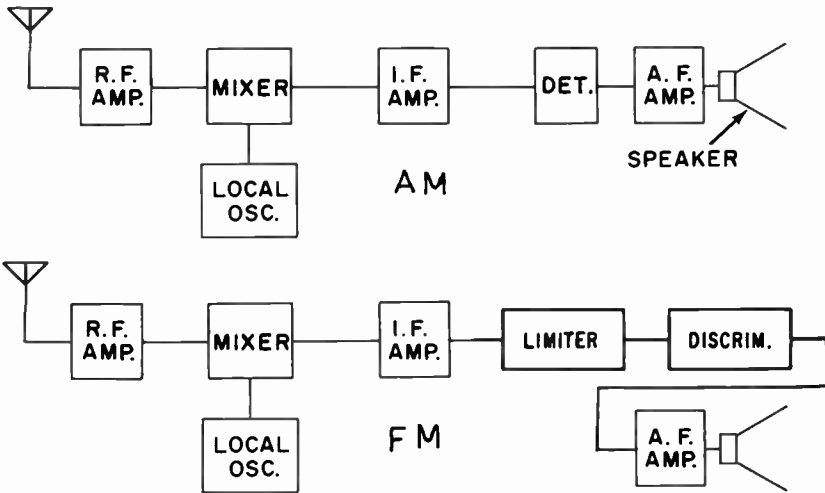

FIG. 16-13. AM AND FM RECEIVERS.
(9) Place the milliammeter in the grid circuit of the second doubler stage and adjust the tuned circuits of the tripler stage for maximum reading. Use the wavemeter to make certain that the output frequency from the tripler stage is approximately 77-78 MHz.
(10) Place the milliammeter in the grid circuit of the power amplifier stage and peak the tuned circuits in the second doubler stage and the tuned circuit (if there is one) in the grid section of the power amplifier stage, for maximum reading. Use the wavemeter to verify that the output frequency of the doubler is approximately 155-156 MHz.
(11) Connect the output antenna circuit to a dummy load. We connect this to a dummy load rather than to an antenna because we do not want to transmit a signal while tuning up the transmitter.
(12) Adjust the antenna coupling to minimum and insert the milliammeter (or ammeter) into the cathode section of the power amplifier. Turn the plate and screen voltages of the power amplifier on and QUICKLY adjust the plate tank circuit for minimum cathode current. We do this quickly because a high current flows in the tube until the plate tank circuit is brought into resonance.
(13) Check the tube manual for the proper plate current. Subtract the approximate screen and control grid currents from the cathode current that is being read to arrive at the true plate current. Adjust the antenna tuned circuit for the maximum current permitted by the tube manual.
(14) Re-adjust the plate tank capacitor for a dip in the cathode current. Continue to adjust the antenna coupling and the plate tank capacitor until the current, at its "dip" point, is in accordance with the tube manual.
(15) Repeat step 10 once again. However, do not exceed the maximum grid current as shown in the tube manual.
(16) Repeat step 13 again.
(17) Disconnect the power and remove the dummy load. Connect the antenna to the transmitter.
(18) Turn on the power and repeat step 13 because the antenna may not present the exact same load to the transmitter as the dummy load did.
**FM RECEIVERS.** The FM receiver is similar to the AM receiver. Fig. 16-13 shows block diagrams of an AM receiver and an FM receiver. A superhetero-